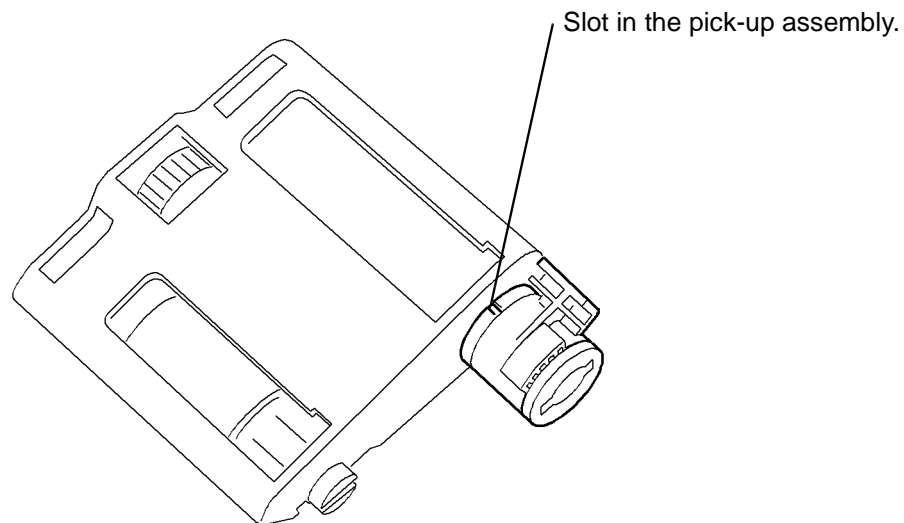

Figure 5 Friction bearing
2. When re-installing the friction bearing onto the ADF pick-up assembly, ensure that the end of the spring is inserted into the slot in the pick-up assembly, Figure 5.